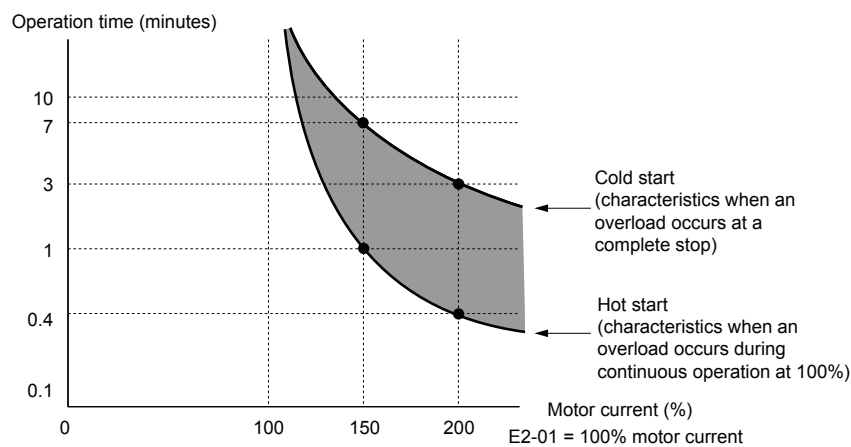

Figure 5.76 Protection Operation Time for General Purpose Motors at the Rated Output Frequency
**Figure 5.76** illustrates an example of the electrothermal protection operation time using a general-purpose motor operating at the value of E1-06, Motor Base Speed, with L1-02 set to one minute.